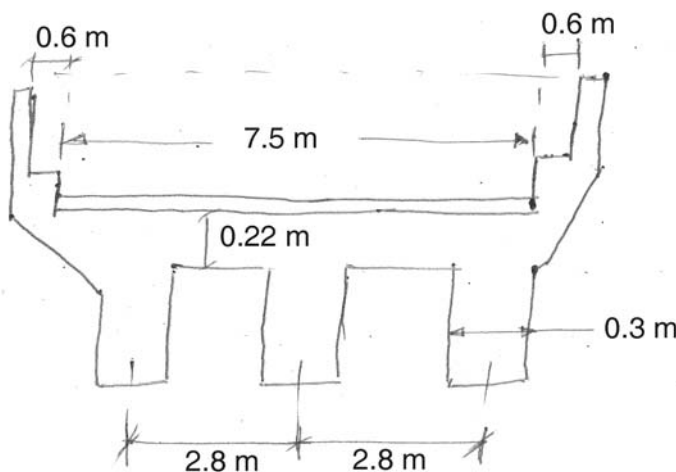

Fig. 3.1
3. Design central longitudinal girder of a ‘T’ beam bridge as shown in Fig. 3.1. **13**